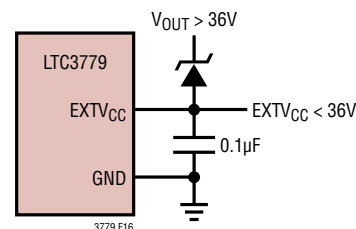

Figure 16. Using a Zener Diode Between VOUT and EXTVCC
4. EXTVCC connected to the regulator output through an external Zener diode. If the output voltage is greater than 36V, a Zener diode can be used to drop the necessary voltage between VOUT and EXTVCC such that EXTVCC remains below 36V (Figure 16). In this configuration, a bypass capacitor on EXTVCC of at least 0.1μF is recommended. An optional resistor between EXTVCC and GND can be inserted to ensure adequate bias current through the Zener diode.